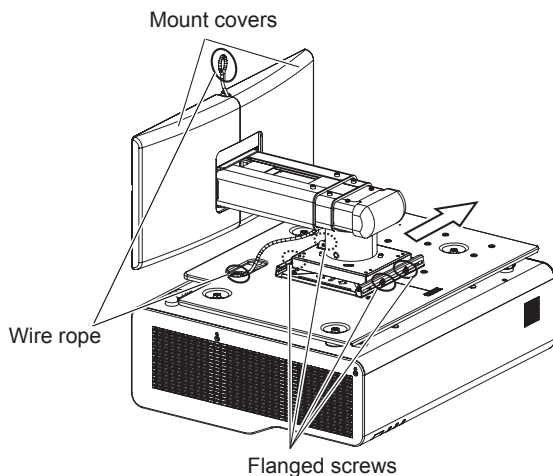

Fig.1
- 5) Slide the projector mount bracket kit together with the projector to the right to remove them from the wall mount bracket. (Fig.1)